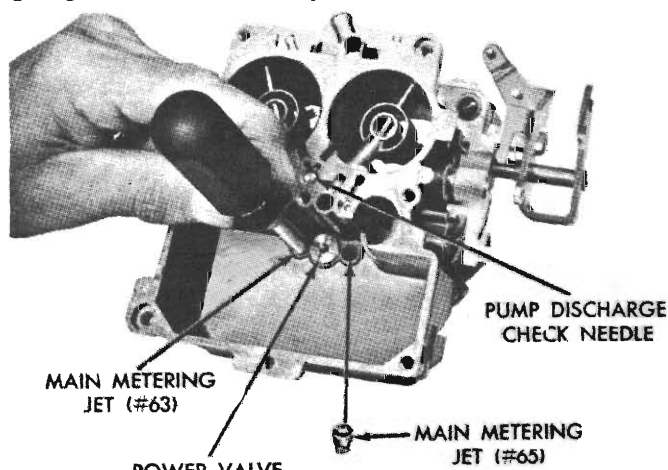

Fig. 13 - Removing or installing main metering jets
(18) Remove main metering jets (Fig. 13).
(7) Install main metering jets (Fig. 13). Tighten to 25 inch pounds.